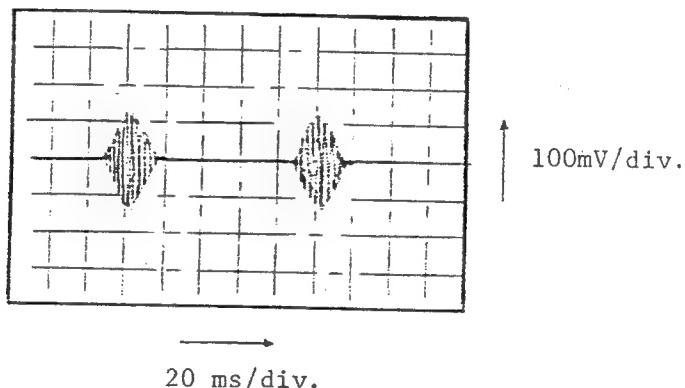

Fig. 4.28 Output Waveshape from Bent or Distorted Medium
- (4) Cautions
- (b) Use a work medium with minimum bend or distortion, such that the waveshape shown in Fig. 4.28 does not appear while the adjust screw is turned counterclockwise.